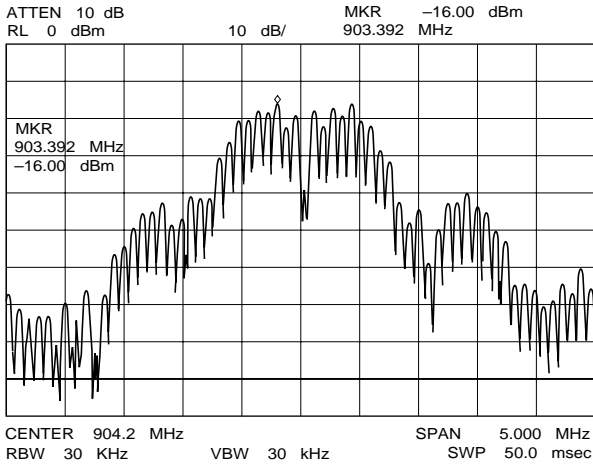
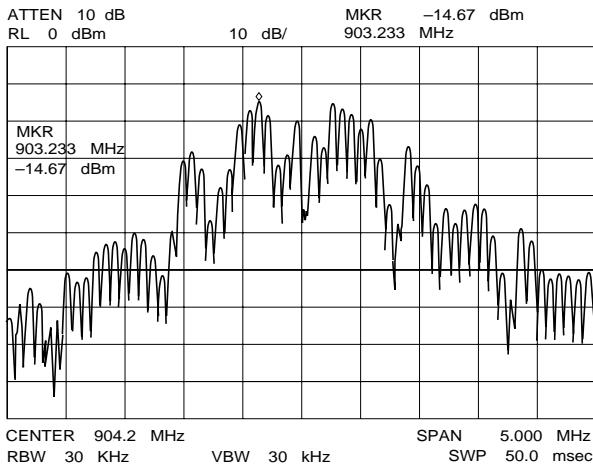

Fig. 1
Fig. 2
- Acceptable level [XdB] difference between the highest peak and the lowest peak of odd side band (the first to seventh side band from Center Frequency ; Transmission Frequency f₀: CH1) is under 10 dB. (Refer Fig. 1 and Fig. 2)